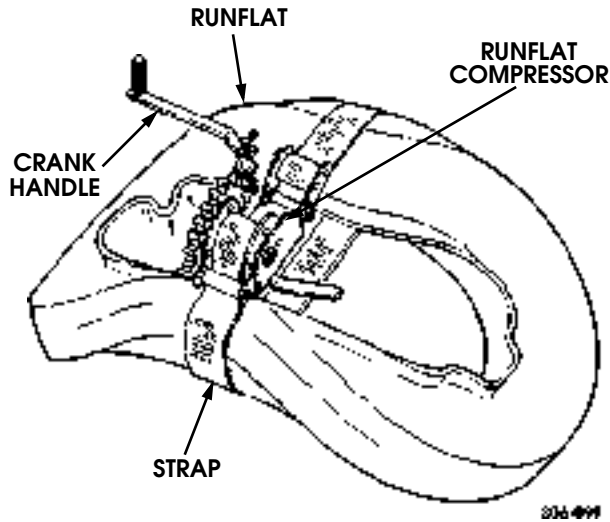

Figure 6-11: Runflat Compressor Positioning
2. Position runflat compressor on an outer edge of runflat with handle assembly facing up and strap centered around runflat (Figure 6-11).
NOTE: The Wrangler GS-A, 37 X 12.50R16.5 LTD touring radial tire has a directional tire tread. The heavier, stiffer tread on the outside shoulder of tire must face outward when being installed. Before installing, inspect sidewall of tire and ensure **SIDE FACING OUTWARDS** imprint is facing outward (Figure 6-11).